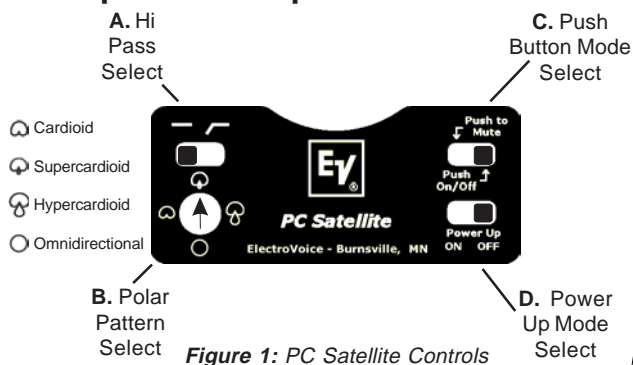

Figure 1: PC Satellite Controls
- 1) **A.** Select High-Pass switch position (see figure 1).
- B.** Select preferred polar pattern (see figure 1).
- C.** Pushbutton Mode Select (see figure 1) -
- D.** Power Up Mode Select (see figure 1) - This mode only functions when control (C) is set to “Push On/Off”.